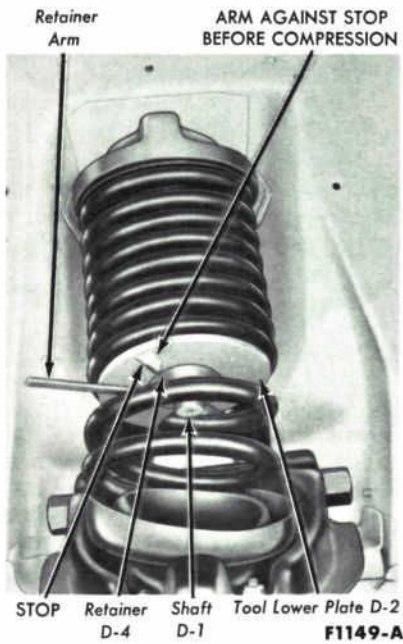

FIG. 77—Front Coil Spring Removal or Installation
3. Install one mounting bracket bolt and washer to hold the spring upper seat to the spring housing while the spring is being compressed (Fig. 76). Position the spring compressing tool to the coil spring. Fit the tool pilot (Part D-3) into the spring upper seat, place the tool bearing over the pilot, and insert the tool shaft (Part D-1) through the bearing and pilot (Fig. 76). Install the tool plate (Part D-2) under the third coil from the bottom then secure the plate to the coil and tool shaft with the tool retainer (Part D-4). See Fig. 77.
4. Compress the coil spring by turning the tool shaft (Fig. 76). Remove the bolt and washer that holds the spring upper seat to the housing, then lower the spring and tool from the spring housing as an assembly (Fig. 77).
2. Position the spring and tool assembly in the spring housing with the end of the bottom coil bearing against the punched end of the recess in the spring lower seat (Fig. 77). Secure the spring upper seat to the top of the spring housing with two bolts and washers. This will hold the spring in correct position while it is being released. Release the spring by turning the tool shaft (Fig. 76).